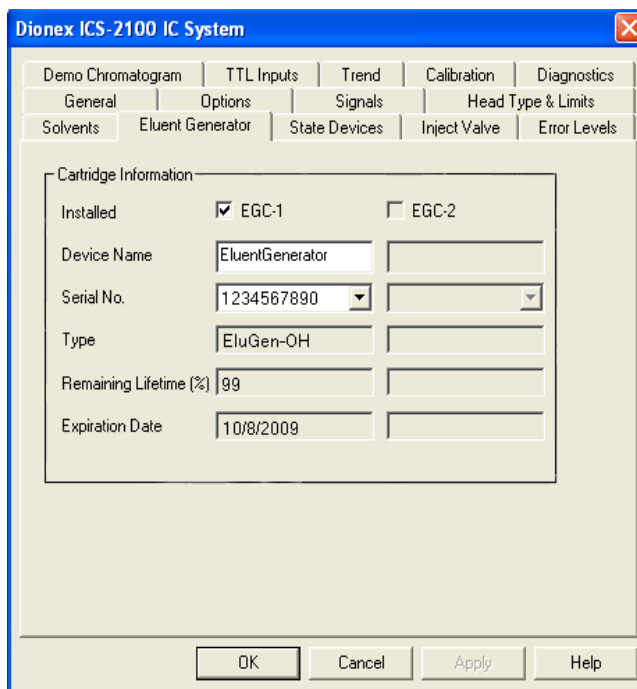

Figure 5-44. Eluent Generator Configuration Properties Example
3. Click the **Eluent Generator** tab (see Figure 5-44).